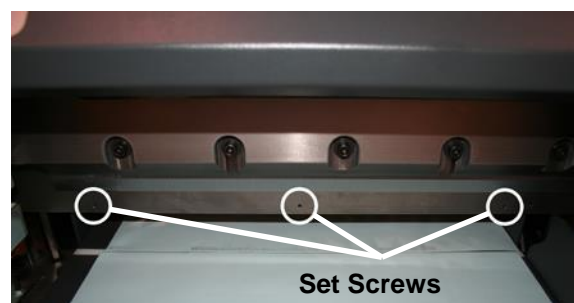

Figure 12
4. Hold the plate in position and secure with the (3) setscrews located in the lower front face of the clamp (Figure 12).